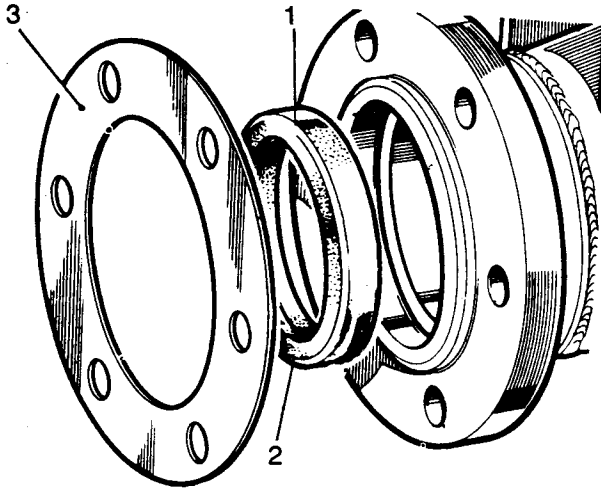

Fig J1.17
- (2) Refer to Fig J1.17. Prise out the axle case oil seal (1).
2. Replace the oil seal as follows (Fig J1.17 still applies):